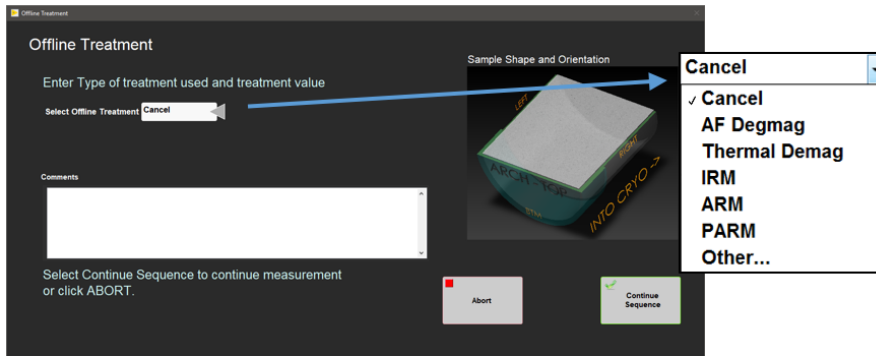

Figure 14- Offline Treatment Window
- **Off-line Treatment** will place an "off-line treatment" into the sequence list. Accept the sequence. A dialog box will be triggered (Figure 14) during the *measurement process* prompting the user to perform an offline treatment. The user may enter the type of offline treatment and comments regarding the treatment. The types of treatments available are shown in Figure 14. Click **Continue Sequence** to continue with the measurement and **Abort** to end the sequence.